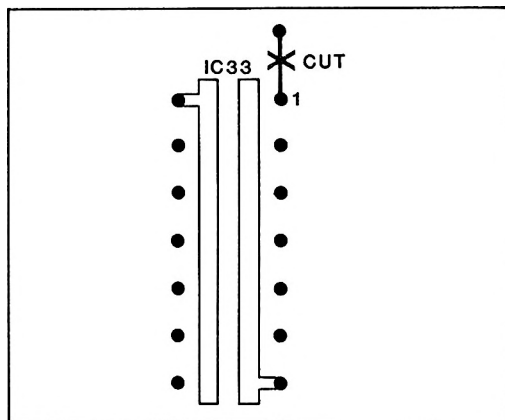

Figure 7
6. Cut trace at IC33-1. (Figure 7.)